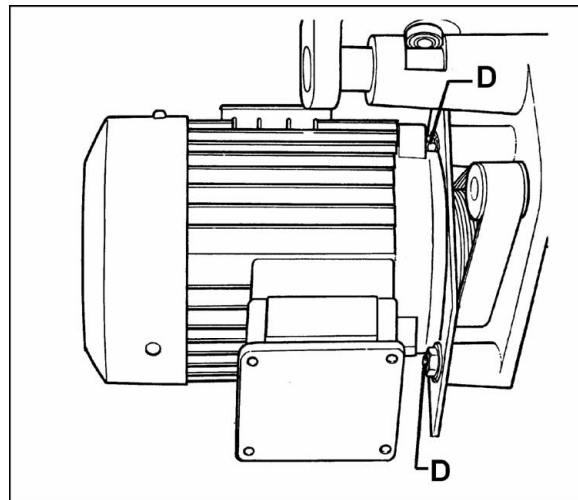

Figure 41
1. Loosen the two nuts (D-Fig. 41) which hold the scoring motor, and push the motor down.